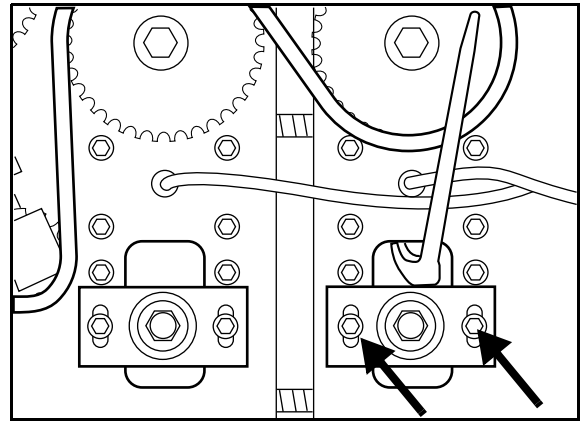

Fig. 5
- Tighten the chain by loosening the screws in the lower bearing housing. Push the bearing housing downwards with a pinch bar, see Fig. 5. Tighten the screws for the bearing housing.